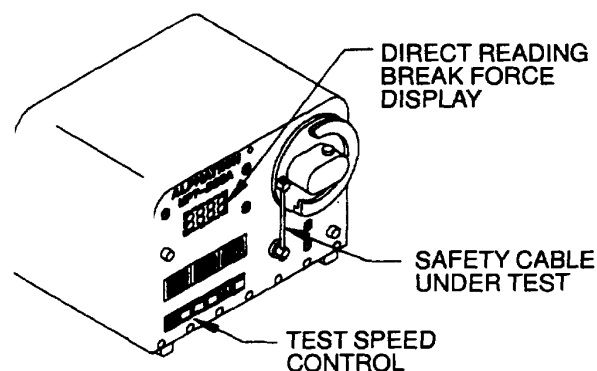

Figure 2-101. Electronic Safety Cable Pull Tester
(4) The safety cable should remain in place during application of the measured force. Apply approximately 2 lbs. force to the safety cable with your finger at the line marked "test area". If the safety cable touches either the side or bottom surface of the test fixture, the crimp is unacceptable and the tool indenter should be adjusted.
(5) *Use of an electronic pull tester to verify safety cable tool indenter adjustment. (See figure 2-101).* It may be required in some applications to pull test safety cable to destruction. If this is required, an electronic pull tester may be used in place of the calibration test fixture/ torque wrench method. The type of machine pictured in this manual will satisfy this requirement.